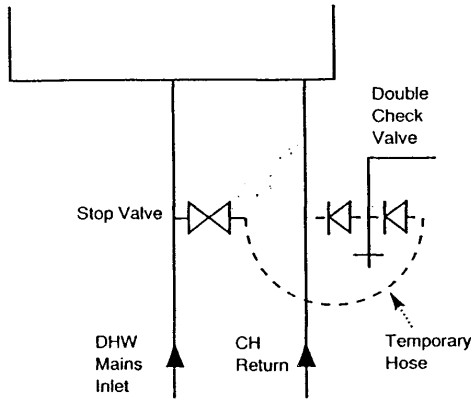

Fig. 6
4. The sealed primary circuits may be filled or replenished by means of a temporary connection between the circuit and a supply pipe, provided a 'Listed' double check valve or some other no less effective backflow prevention device is permanently connected at the inlet to the circuit and the temporary connection is removed after use (Fig. 6).